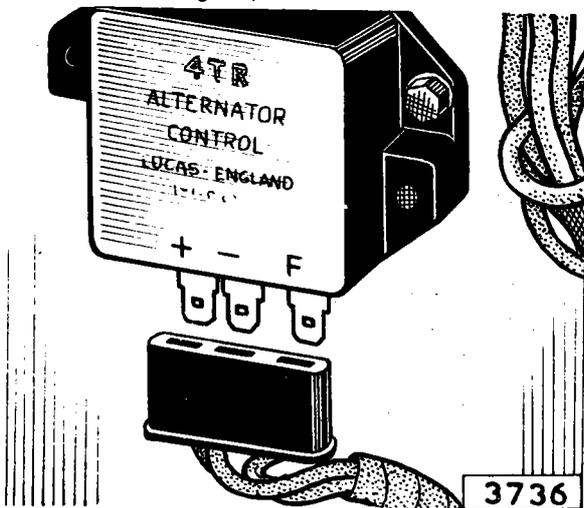

Fig. 10 Showing the cable terminals disconnected from the base of the control unit
- (c) Detach the terminal connector block from the base of the control unit and connect the black and brown/green cables together by means of a short length of cable with two "Lucar" terminals attached. This operation connects the alternator field winding across the battery terminals and by-passes the output control unit (Fig. 10).